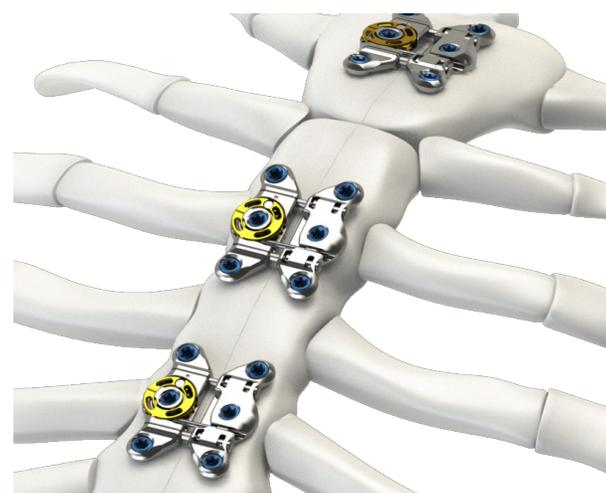

figure 14: Implanted Grand Pre implants
- Once the Shear Bars are aligned, tighten the Ratchet Wheel until the sternal halves make contact. If using multiple plates, repeat this step by incrementally tightening the middle plate first, then the proximal plate, and finally, the distal plate (*figure 14*).